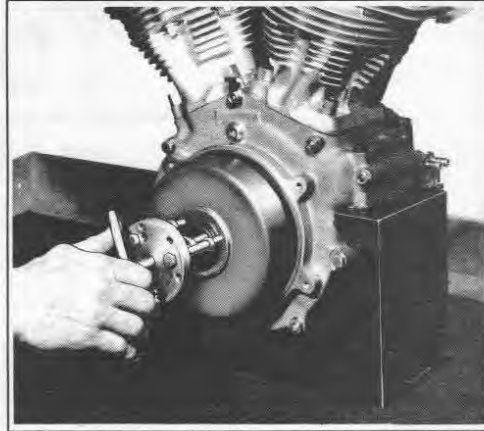

Figure 5-12. Pulling Alternator Rotor
Voltage will vary with air temperature as shown in curve and should be within limits shown for any temperature (See Figure 5-12.)
6. Remove sprocket spacer from sprocket shaft. Using Puller, Part No. 95960-52A, pull alternator rotor from sprocket shaft as shown in Figure 5-12.